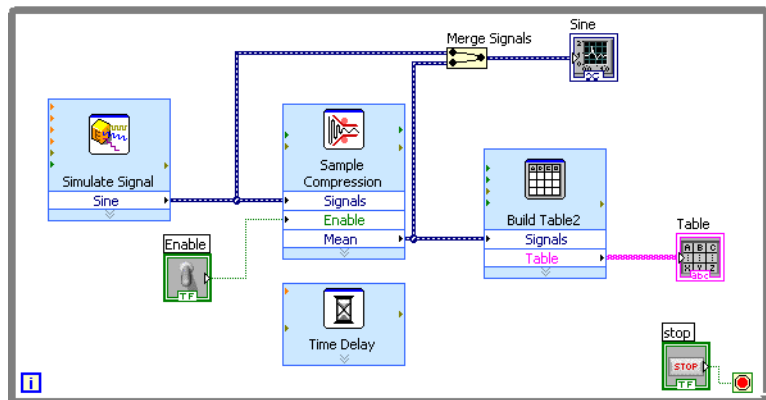

Figure 2-5. Block Diagram of the Reduce Samples VI
7. The block diagram should appear similar to Figure 2-5.